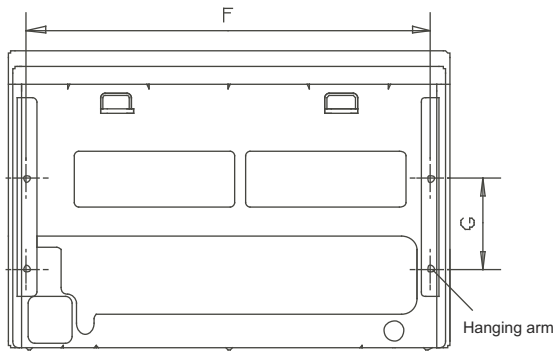

Fig. 5-10
- Remove the side board and the grille. (Refer to Fig. 5-10) (For models 48 and 60, do not remove the grille.)